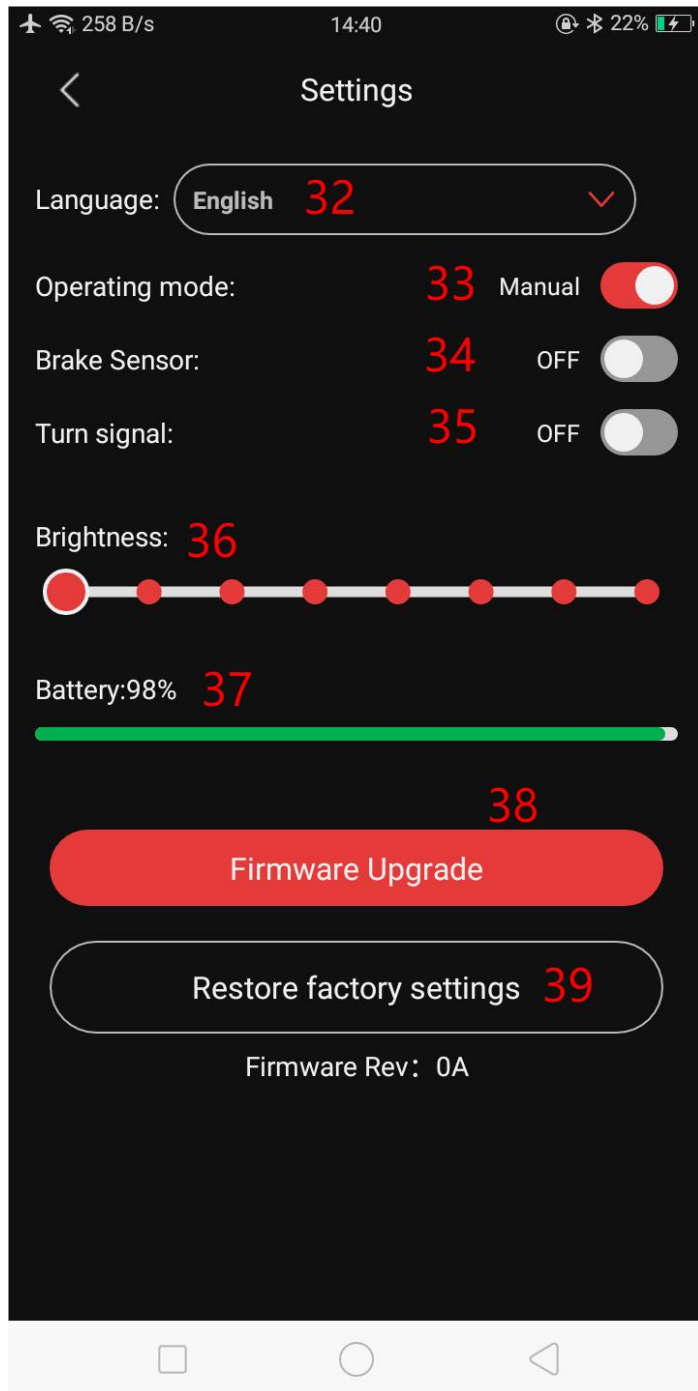

Fig. 8
**Brake sensing mode is off in default setting. It can enable in EFXLink in “Settings” manul as shown in Fig. 8.